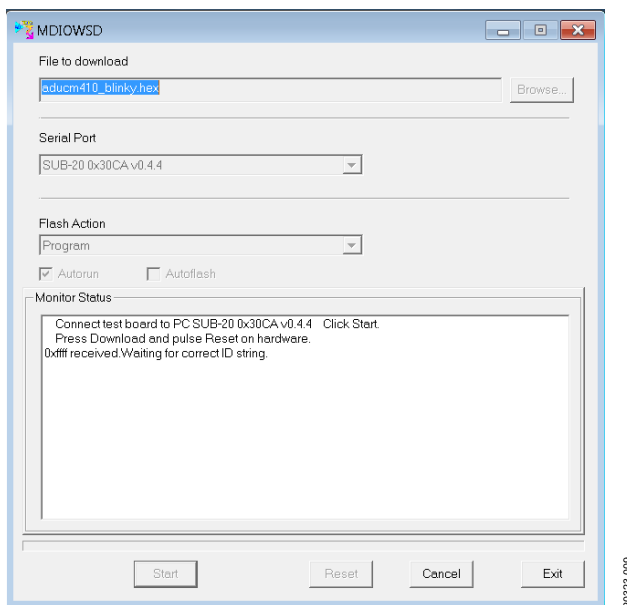

Figure 18. MDIOWSD GUI
5. Connect the USB cable from the PC to the SUB-20 board and run **C:\ADuCM410...\SoftwareTools\MDIOWSD\MDIOWSD.exe**. The GUI window then opens, as shown in Figure 18.
6. Click the **Browse** button (see Figure 18), and navigate to the desired code to download.